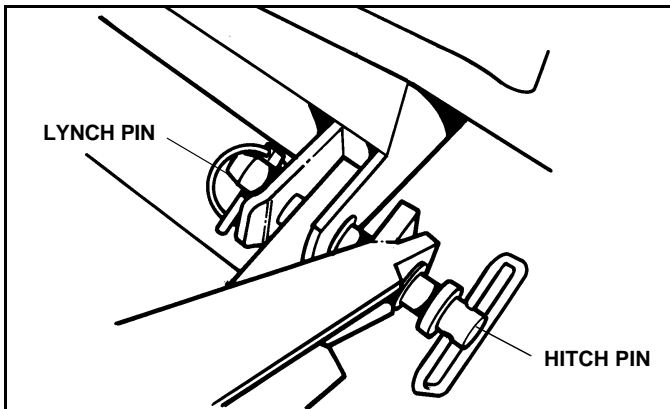

Figure 1-1
2. Align A-frame and vehicle mounting lugs and install two (2) lower outboard pivot Hitch Pins. Install Lynch Pins into Hitch Pins to secure them in place. See Figure 1-1.